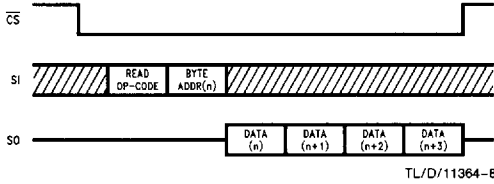

FIGURE 6
Reading the memory via the SPI link requires the following sequence. The \overline{CS} line is pulled low to select the device. The READ op-code (which includes A8) is transmitted on the SI line followed by the byte address (A7-A0) to be read. After this is done, data on the SO line becomes don't care. The data (D7-D0) at the address specified is then shifted out on the SO line. If only one byte is to be read, the \overline{CS} line can be pulled back to the high level. It is possible to continue the READ sequence as the byte address is automatically incremented and data will continue to be shifted out. When the highest address is reached (1FF), the address counter rolls over to lowest address (000) allowing the entire memory to be read in one continuous READ cycle. See Figure 6.